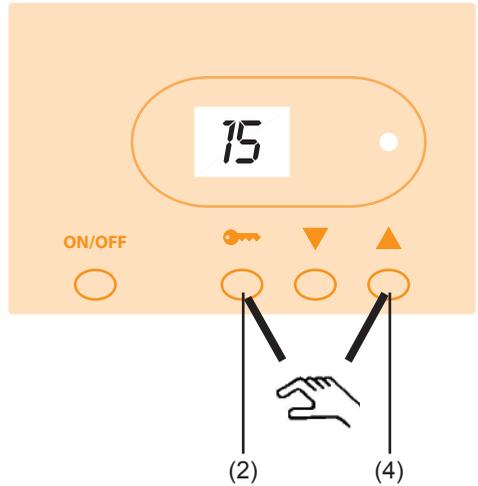

Fig. 6
Push the buttons (2) and (4) simultaneously (fig. 6).